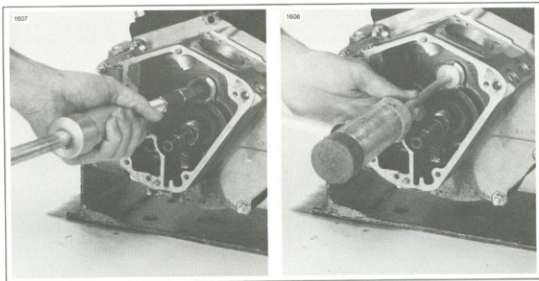

Figure 3-38. Removing and Installing Cam Gear Needle Bearing
2. Inspect oil screen (4) carefully to make sure mesh is open. Fill screen with oil and watch for complete and even flow of oil through screen. Replace plugged or partially plugged screen.
4. Inspect cam gear oil seal (34) in cover to see that lip is in good condition.
6. Inspect needle bearing (35) for wear, broken or gouged bearings. If end of cam shaft shows any appreciable wear (0.003 in. or more), needle bearing is probably worn to a point where replacement of bearing and cam shaft are advisable.
7. Needle bearing can be removed and installed in crankcase without disassembling crankcase using PULLER TOOL, Part No. HD-95760-69, as shown in Figure 3-38. Press needle roller bearing into crankcase with NEEDLE BEARING TOOL, Part No. HD-97272-60, as shown in Figure 3-38. Press from heavier end having the manufacturer's name only. Pressing from opposite end will crush roller race and bind rollers. Pinion shaft main roller bearing may be replaced only when crankcase is disassembled, see DISASSEMBLING CRANKCASE.